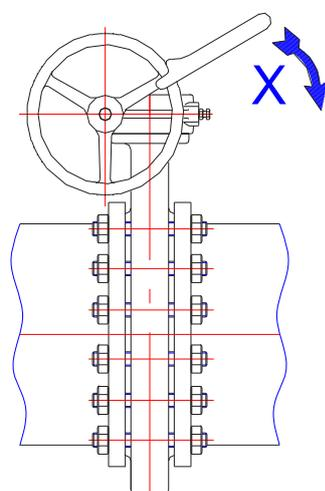

Fig.29
17.3.4 Do not use a "F" wrench to operate the hand wheel of gear box. (Fig.29)